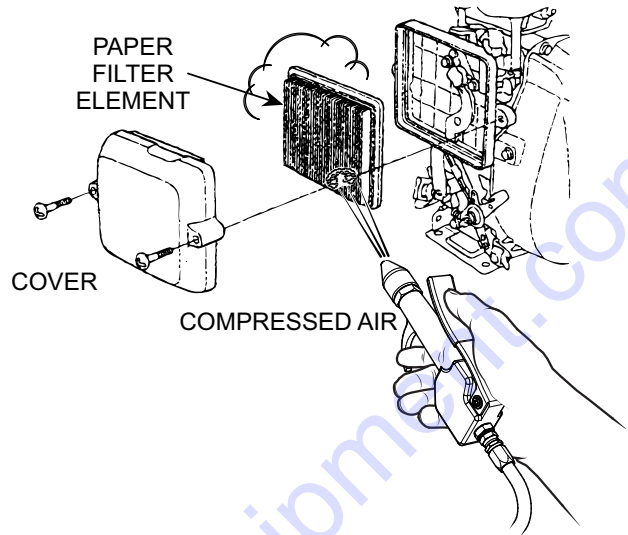

Figure 24. Engine Air Cleaner
- Tap the paper filter element (Figure 24) several times on a hard surface to remove dirt, or blow compressed air [not exceeding 30 psi (207 kPa, 2.1 kgf/cm²)] through the filter element. **NEVER** brush off dirt. Brushing will force dirt into the fibers. Replace the paper filter element if it is excessively dirty.